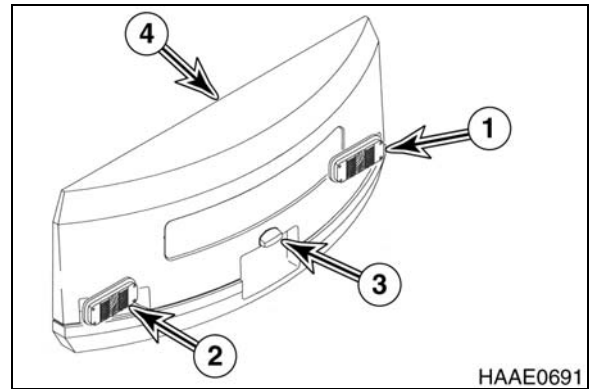

Figure 7
7. If unit has tail lights, etc.; connect wiring harnesses as tagged to tail lights (1 and 2, Figure 7) and license plate light (3).
NOTE: *Make sure that all harnesses and mounting hardware are secured to counterweight (4, Figure 7), if removed during removal procedures.*